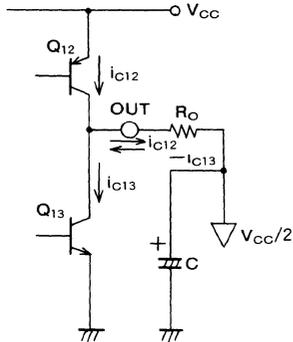

Fig. 4 EQUIVALENT CIRCUIT OF OUTPUT STAGE
The M5222 has a floating-type output stage with the collectors of Q₁₂ and Q₁₃ joined as shown in FIG. 4. Here, the difference of the combined currents will become the output current that will flow through the load. Note that it is necessary to set the DC potential of this output pin by externally-connected resistor R_O and that it is generally DC-connected to the V_{CC}/2 pin (or to pin (3)).